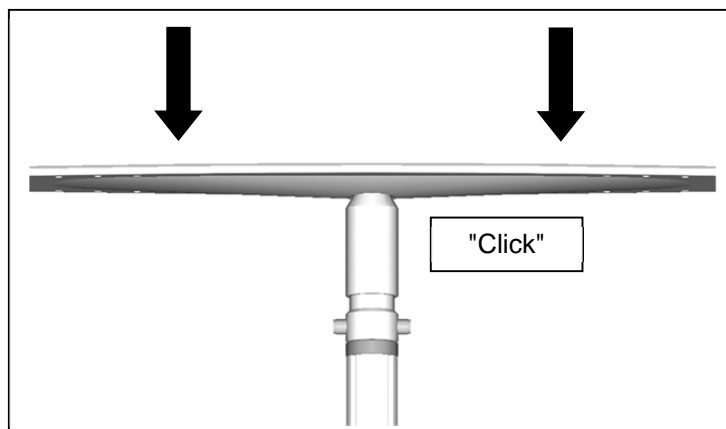

Figure 23
12. Place the top plate into the top of the post, press firmly and evenly downward until the top plate "clicks" into place (see Figure 23).